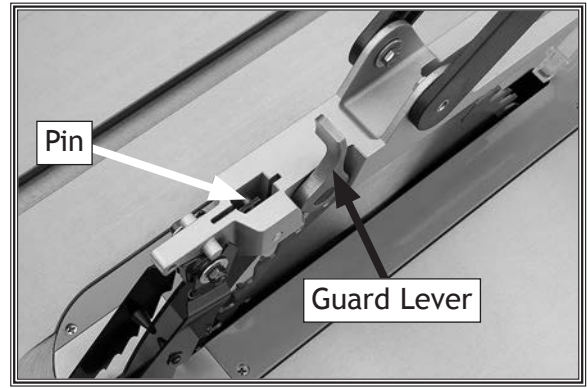

Figure 47. Blade guard installation.
8. Insert rear pin on blade guard into rear slot of spreader (see **Figure 47**), then push down on blade guard assembly so forward pin slides into forward slot of spreader.